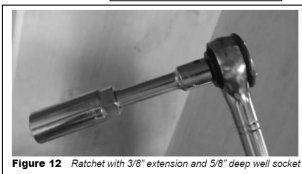
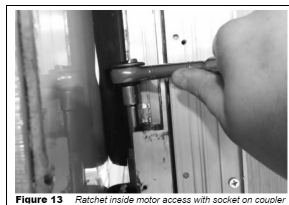

Figure 12 Ratchet with 3/8" extension and 5/8" deep well socket
Figure 13 Ratchet inside motor access with socket on coupler
- Place a socket wrench with a 3-inch extension and a 5/8" deep well socket (Fig 12) through the motor access opening and seat the socket onto the coupler (Fig 13). One person alternating from side to side of the room can retract a 1500 lb. room with or without a ramp.